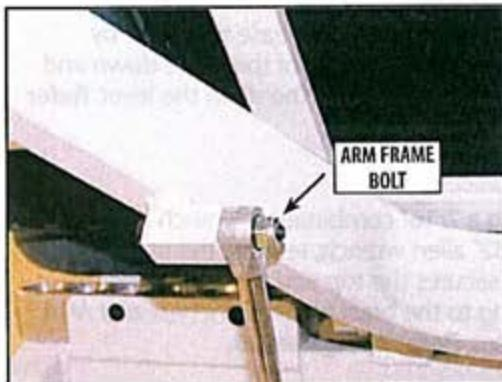

FIGURE 5.8
4. Using a 5/32" allen wrench and a 7/16" combination wrench, remove the nut and bolt holding the Gas spring to the Arm Frame. **Refer to Figure 5.8.**